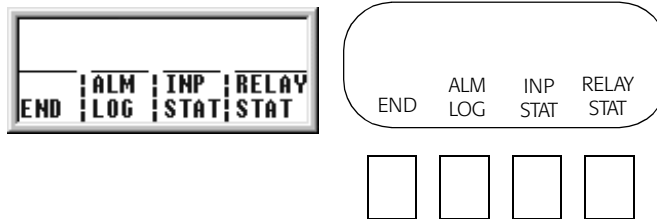

Figure 12: Annunciator Main Menu
The DTA is activated. The DTA's screen displays the initial screen like Figure 12.
- Press the EXIT key to return to the main menu shown in Figure 12.